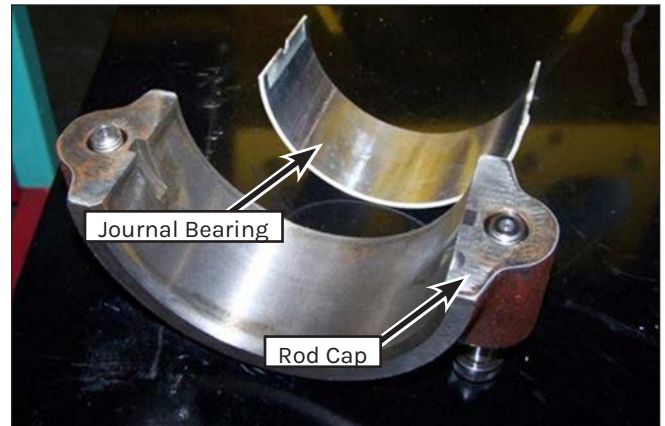

Figure 158: Bearing Removal.
6. Remove the journal bearing from the rod cap and discard (Figure 158).